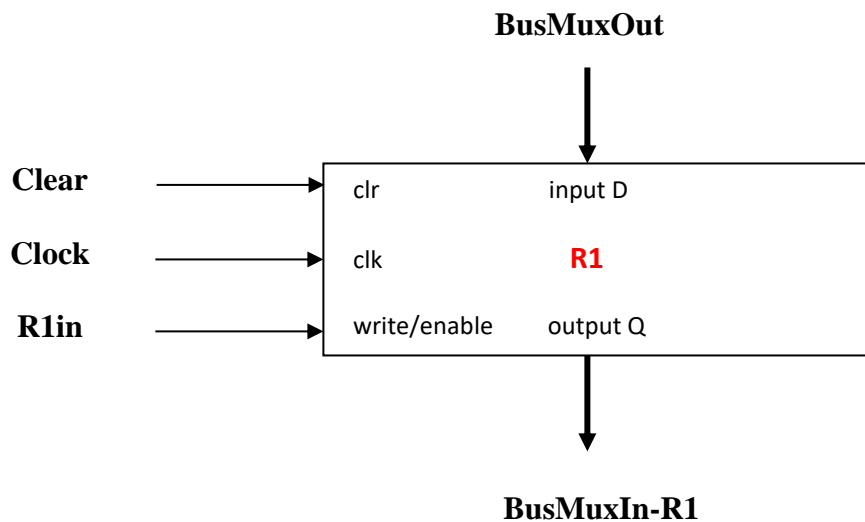
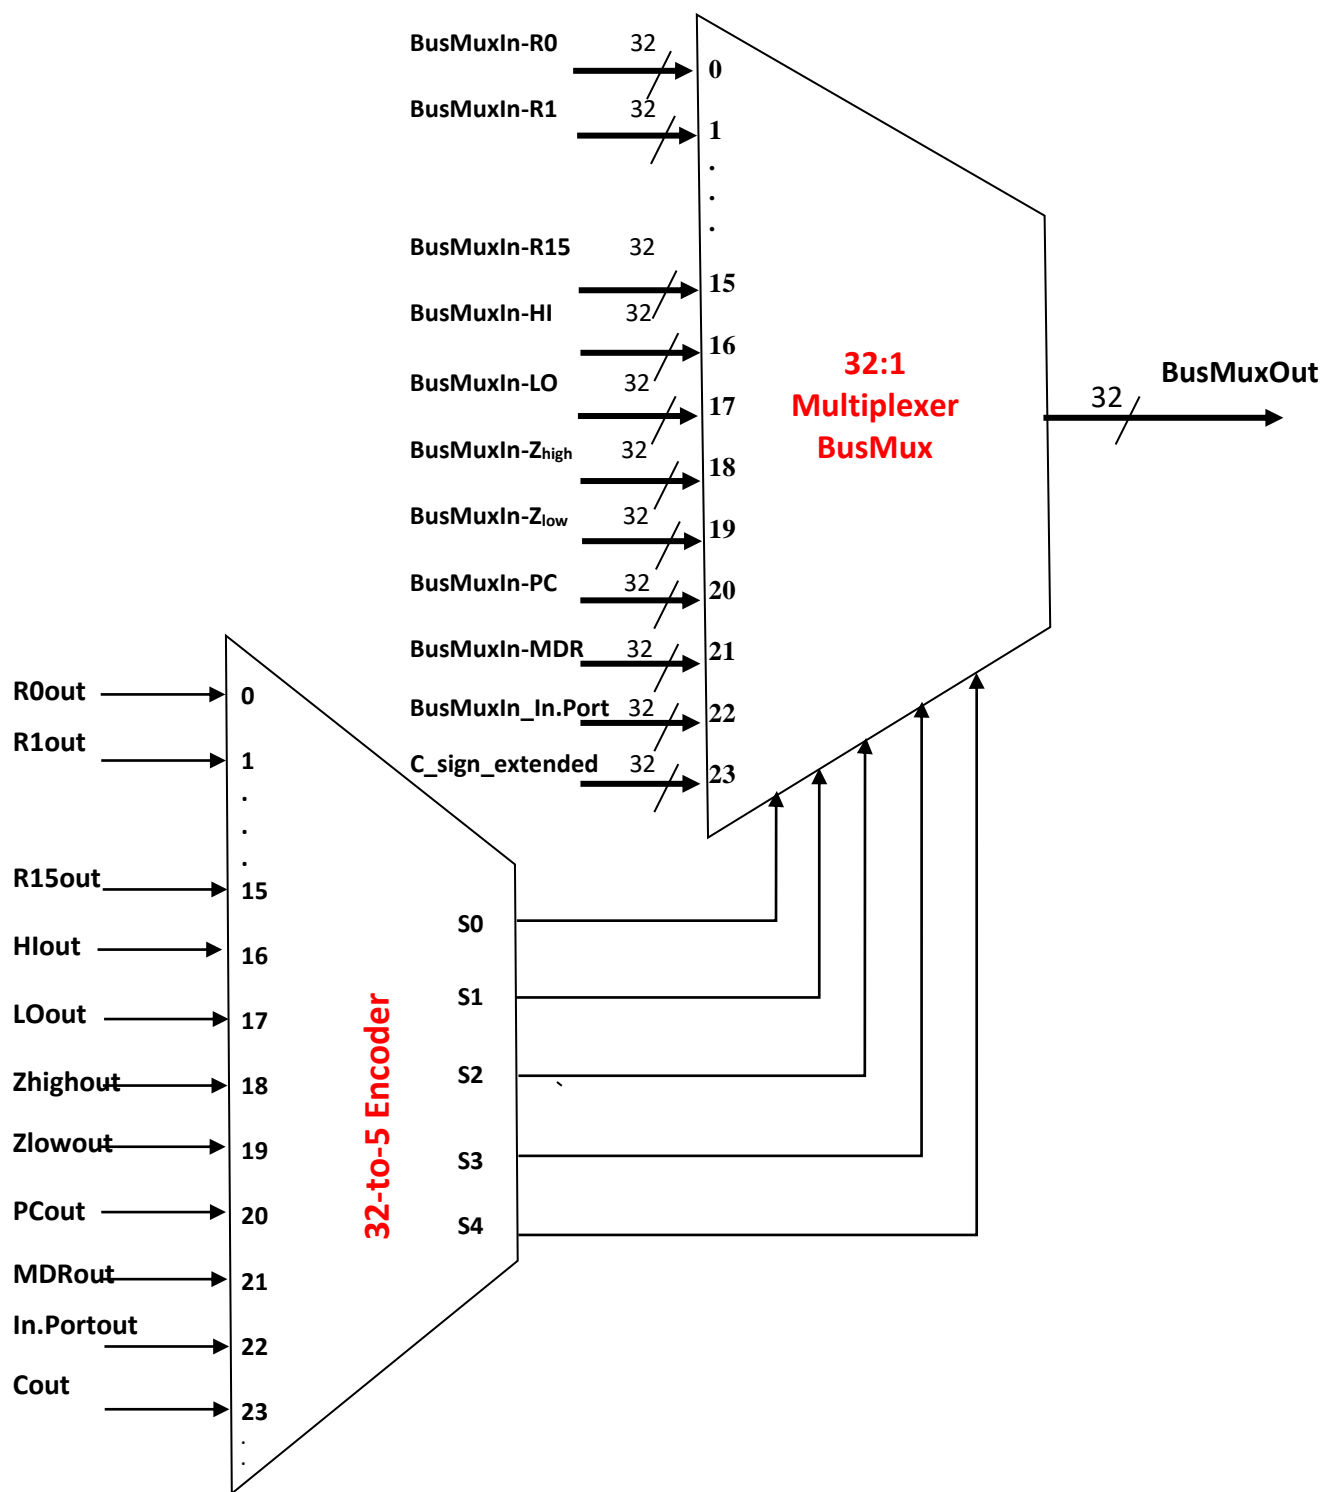

Figure 2: A typical register
Figure 3: A typical Bus
A Typical Register: Figure 2 shows the block diagram for a typical register, such as *R1* (there will be a minor revision to *R0* circuitry that we will discuss in Phase 2 when we design the “Select and Encode Logic”). The input to the register, **BusMuxOut**, is coming directly from the bus. The contents of the bus is saved onto the register using the synchronous *Clock* signal and the *R1in* signal. The *R1in* signal is the control signal that allows the data from the bus to be written onto the register *R1*. The *R1out* signal is the control signal that allows the contents of *R1* to be placed on the bus, through the **BusMuxIn-R1** input (see Figure 3). The *Clear* signal is used to reset the registers to a known state.
Bus design: One of the important aspects of the Mini SRC datapath is its bus. The Bus may be implemented by tri-state buffers, or by a multiplexer and an encoder. Figure 3 shows a typical bus design using the multiplexer/encoder approach. The Mini SRC Bus is implemented using a 32:1 Multiplexer, **BusMux**, with five select input signals coming from a 32-to-5 encoder. The idea is to choose only one of the registers *R0* to *R15*, *HI*, *LO*, *Z_{high}*, *Z_{low}*, *PC*, *MDR*, *In.Port*, or the sign-extended version of the constant *C*, as the source of the bus. The output of the BusMux, **BusMuxOut**, is the Bus itself. The inputs to the 32-to-5 encoder, which could select any of the above registers, are the control signals generated by the Control Unit (in Phase 3) or by the “Select and Encode Logic” (in Phase 2). However, in Phase 1, we just simulate these signals.
2. Design the bidirectional Bus (Figure 3) and connect the registers that you designed in Step 1 to the Bus.